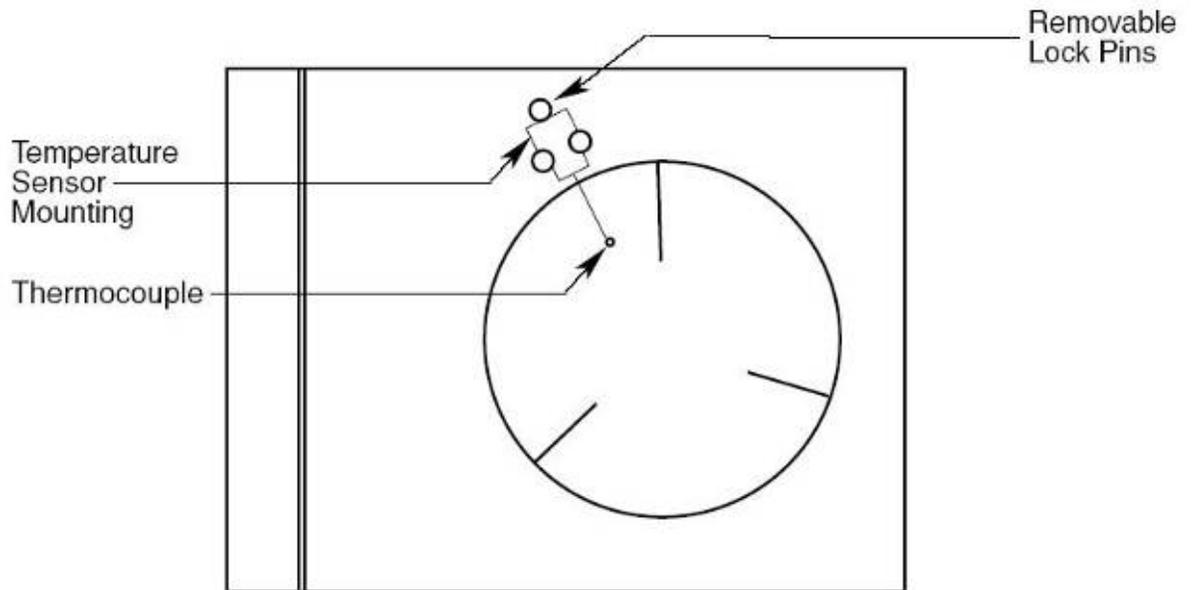

Figure 10-10: *Thermocouple Placement (showing Cantilever thermocouple)*
- Step 3. Place the thermocouple holder between the two fixed pins on the wafer tray, as shown in Figure 10-10. The holder should be placed so the ends of the thermocouple leads emerge from the bottom of the holder. The holder should fit into the grooves in the pins.